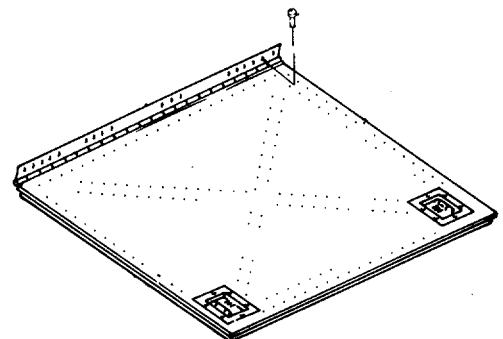

Figure 6-6. Hinge, Replacement.
- (1) Clean the door with a solution of mild soap and water.
- (2) Rinse thoroughly with clean water.
- (3) Allow to dry.
d. Repair (Refer to Figures 6-6 through 6-10).
- (1) Replace a defective door (refer to Figure 6-6) as follows: